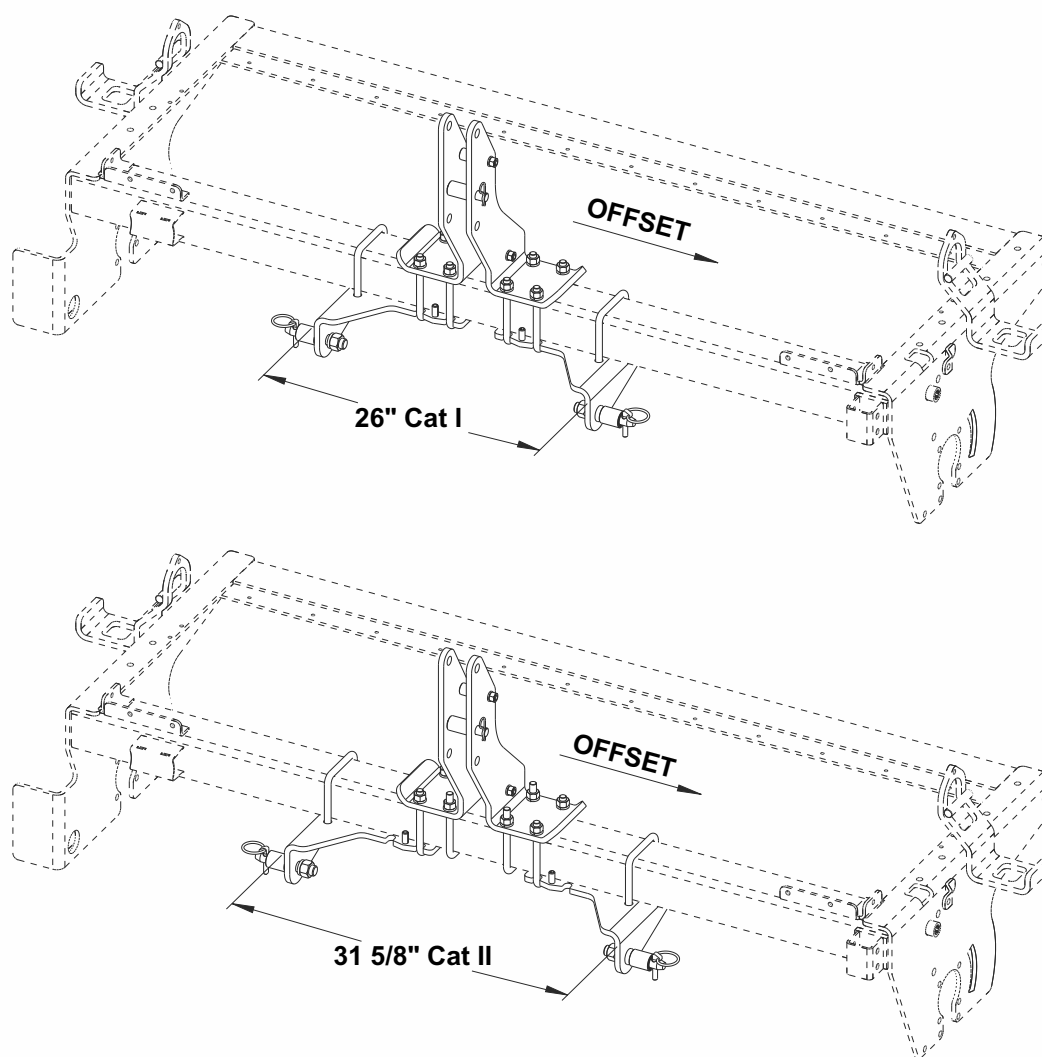

Figure 2-2: 3 Point Hitch
- If an offset is required for wider tractors, move the Three Point Hitch towards the transmission side of the machine. See Figure 2-2.